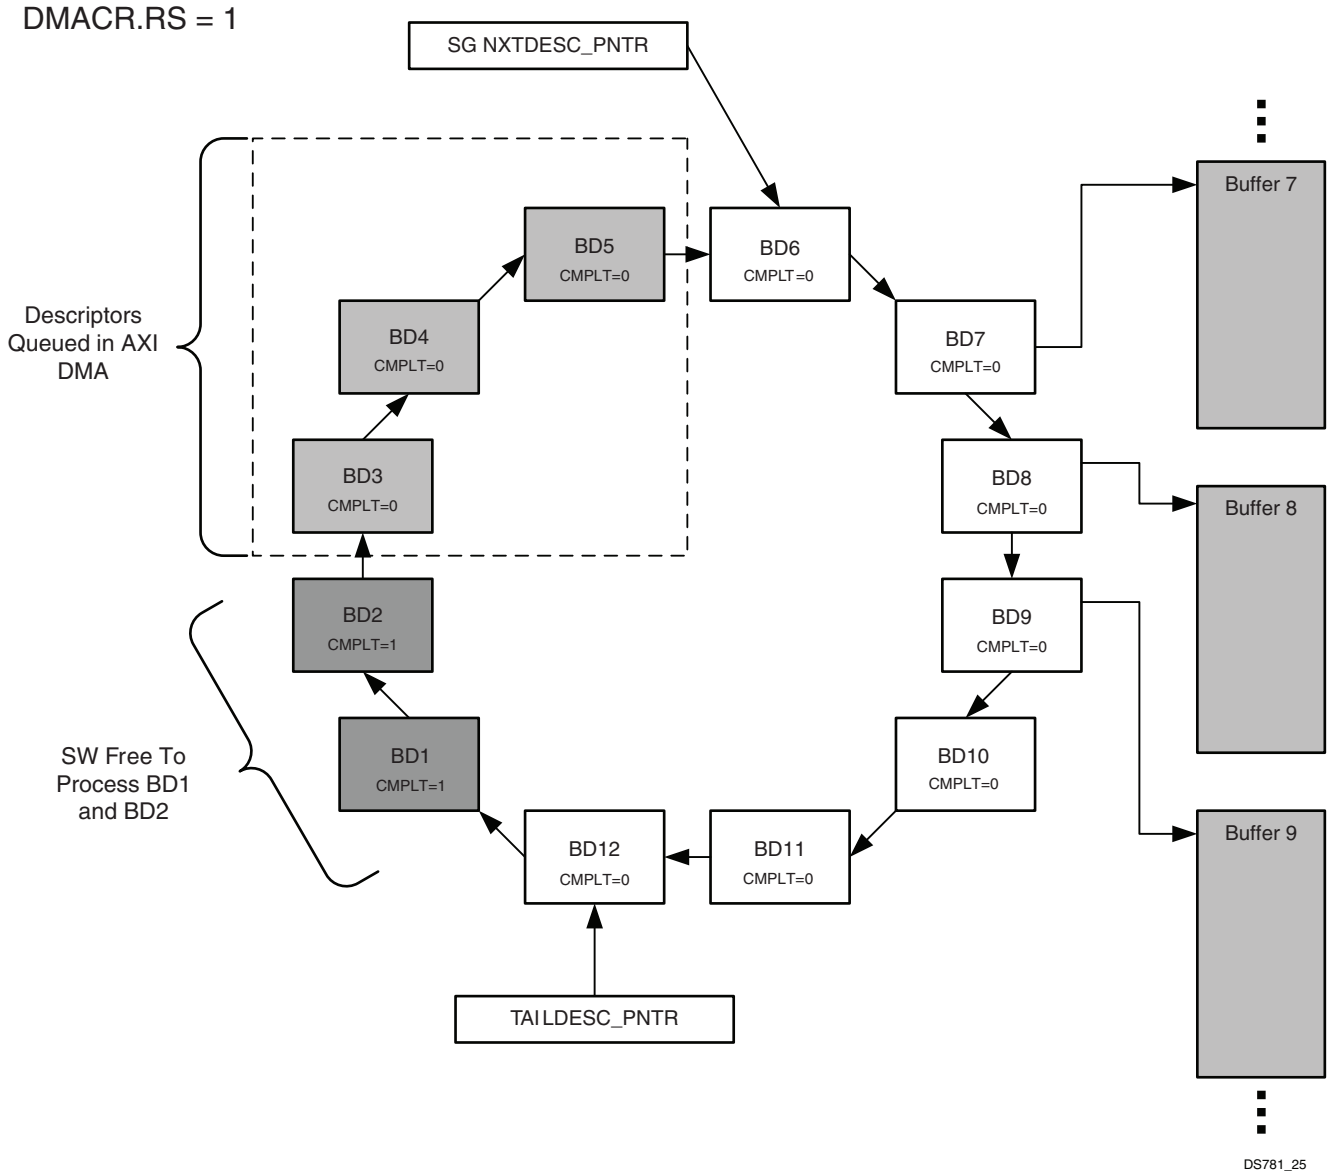

Figure 29: Continued Execution
3. Continued execution (DMACR.RS=1), as shown in Figure 29.